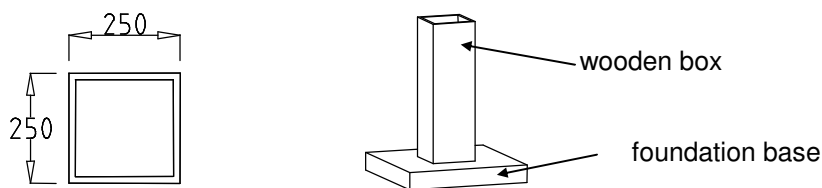

Figure 2: Schematic diagram demonstrating the 'Variation 3' method for foundation preparation.
5. Position the boxes about the prepared foundation base so that the box is centred about the designated post position. (refer to Figure 2)